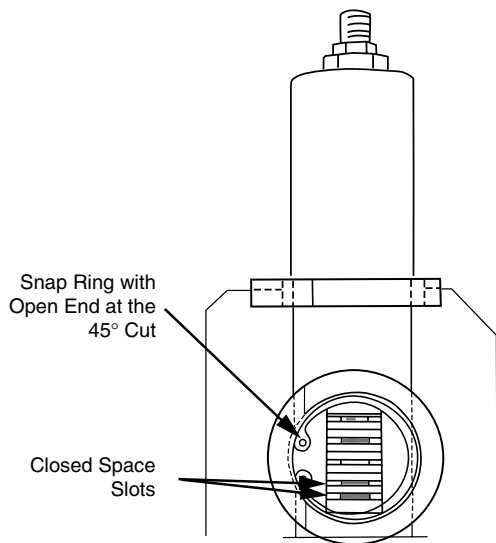

Figure 7. Exhaust baffle.
6. Install exhaust baffles, see Figure 7. Note that the two lower slots are separated by only one spacer while all other slots are separated by two spacers. Install retaining rings so eyelets are positioned at the 45° cut on the cross blast tube.